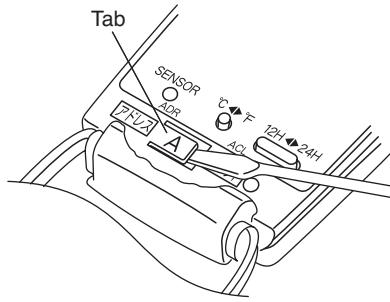

Fig. 62
- (1) Switch on the power source.
- (2) Break the address-setting tab marked "A" on the second remote controller to change the address (Fig. 62). When the tab is removed, the address is automatically set to B (Fig. 63).
- (3) Press and hold the remote controller ION button and 1 HR TIMER button. At the same time, press the ACL (reset) button. Use a thin object such as the tip of a pen to press the ACL button. When this has been done, "oP-1" (test run) appears, blinking, in the remote controller clock display area.